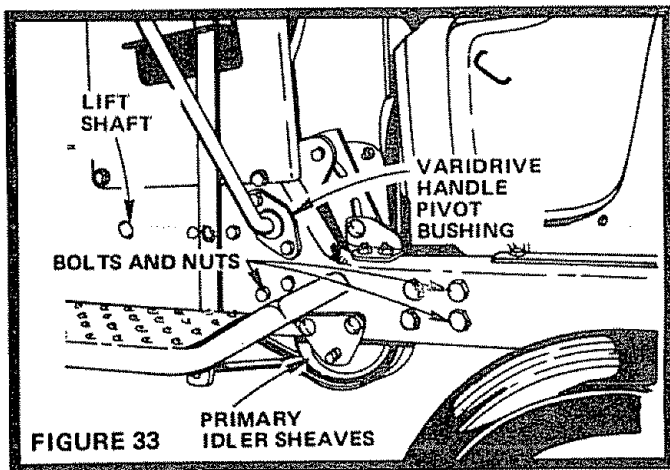

FIGURE 33 PRIMARY IDLER SHEAVES
- Lift Shaft (Fig. 33).
- Varidrive Handle Pivot Bushing (Fig. 33).
- e. Remove 3 Bolts and Nuts holding Primary Idler Sheaves to Frame (Fig. 33).